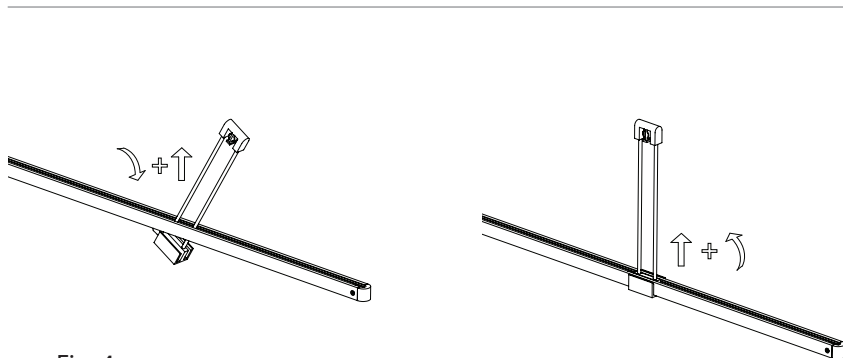

Fig. 4
2. Tip the Perpendicular Power Bar Hanger 45 degrees and insert the copper springs into the center of the Power Bar. (Fig. 4)
3. Push the Perpendicular Power Bar Hanger up while tipping it back up 45 degrees. (Fig. 4)